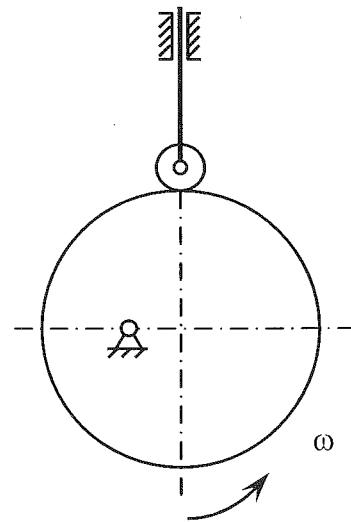

Figure 1
Answer the following questions according to the Figure 1,:
- 1) **Draw** the theory profile of cam shown in the figure 1. (Mark: 3 points)